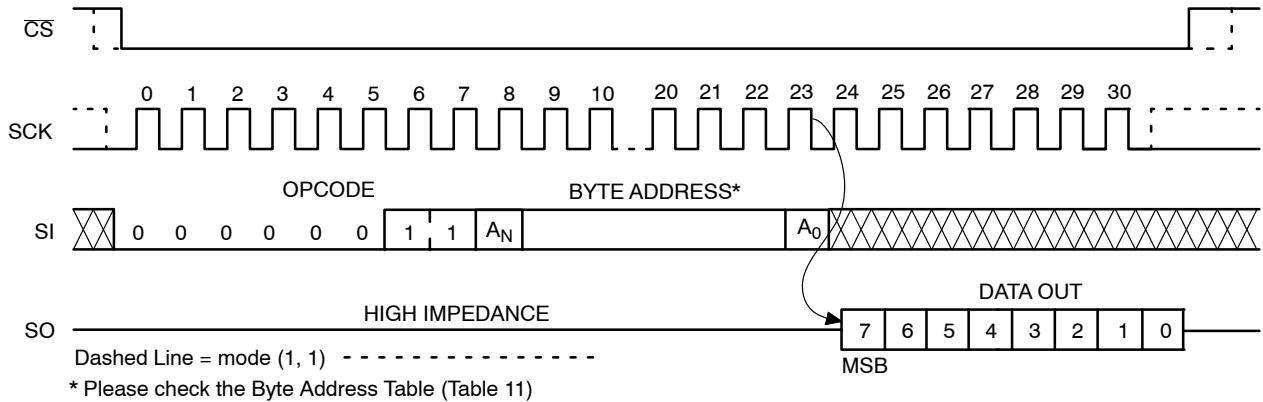

Figure 9. READ Timing
After receiving the last address bit, the CAT25512 will respond by shifting out data on the SO pin (as shown in Figure 9). Sequentially stored data can be read out by simply continuing to run the clock. The internal address pointer is automatically incremented to the next higher address as data is shifted out. After reaching the highest memory address, the address counter “rolls over” to the lowest memory address, and the read cycle can be continued indefinitely. The read operation is terminated by taking CS high.
Reading the additional 128-byte Identification Page (IP) is achieved using the same Read command sequence as used for Read from main memory array (Figure 9). **The IPL bit from the Status Register must be set (IPL = 1) before attempting to read from the IP.** The [A6:A0] are the address significant bits that point to the data byte shifted out on the SO pin. If the CS continues to be held low, the internal address register defined by [A6:A0] bits is automatically